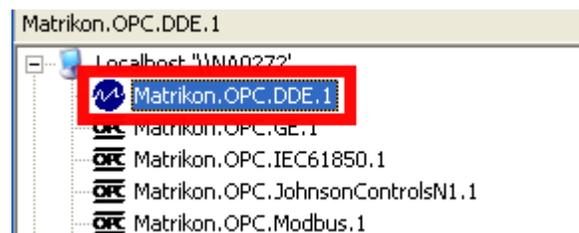

Figure 9 - Icon - Server Connected
- The presence of the blue MatrikonOPC icon next to the server name in the navigation pane (Figure 9).